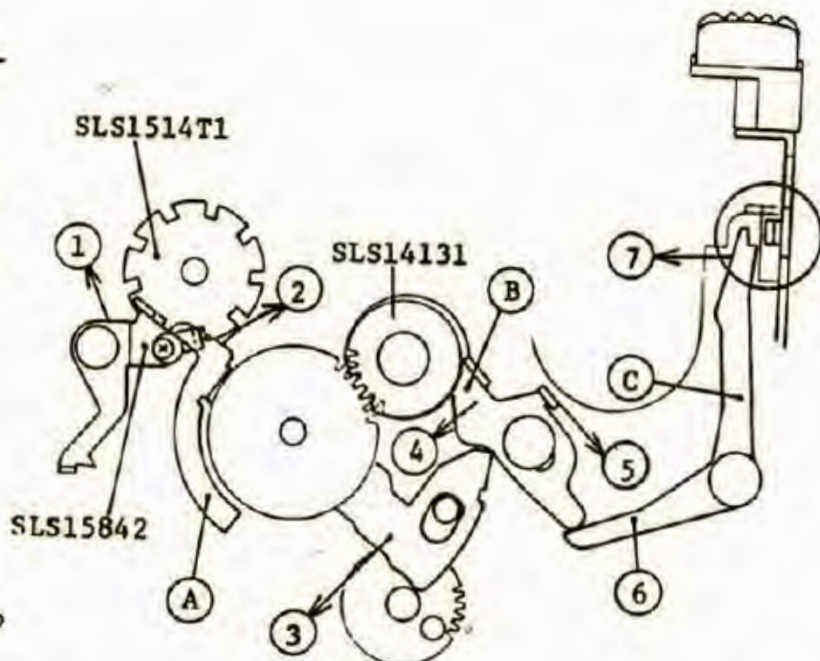

Fig. 14
- 3) When winding up film advance crank or knob, top of SLS15842 Stop lever goes into a hollow of SLS1541T1. And then moves (A) lever in direction shown by the arrow in Fig. 14.
- 4) When the (A) lever moving in direction $\rightarrow 2 \rightarrow 3$, (B) stopper gets in cam of SLS 14131 (A) rotation stop disc. Then film advance crank or knob does not wind any more.